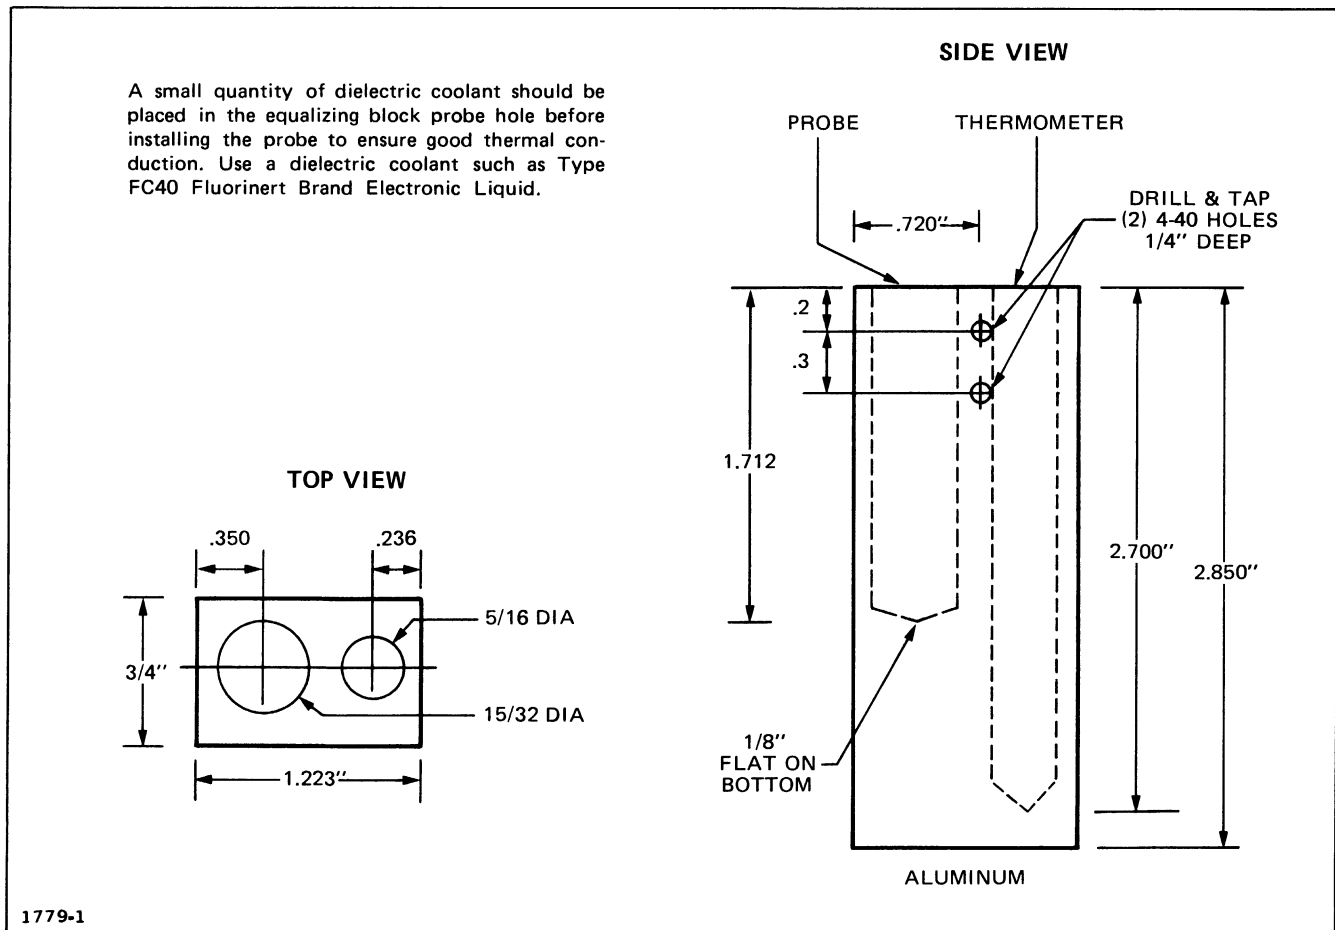

Fig. 5-1. Temperature Probe equalizing block.
d. Remove temperature probe and thermometer from the water and place in temperature probe equalizing block (see Fig. 5-1) at room temperature. Use dielectric fluid shown in Fig. 5-1.